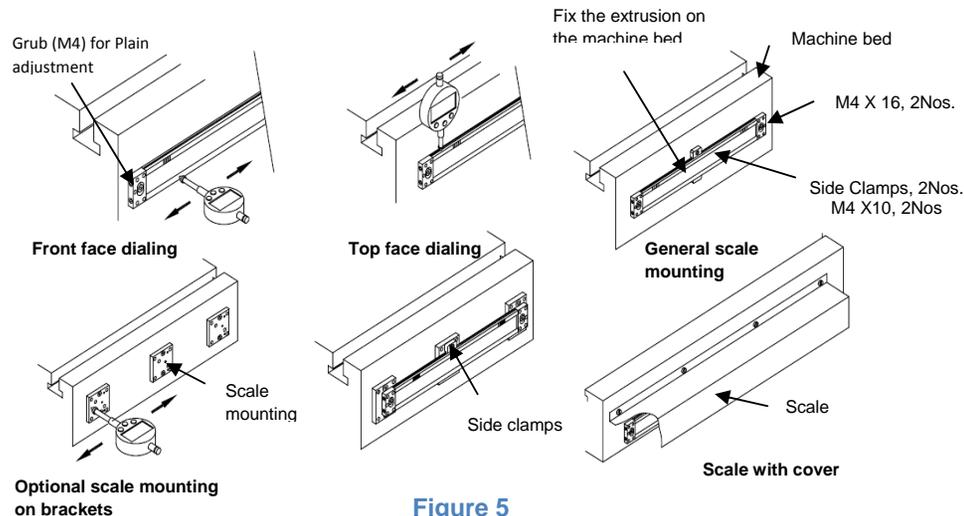

Figure 5
- ☞ If the mounting surface of the machine is even (within 0.1mm/m), then the scale can be directly mounted to the machine. Ensure the parallelism to full length of the scale as instructed in the mounting tolerances using a dial indicator. Adjustment is provided in the scale end brackets to help aligning the scale and maintaining the mounting tolerances. Refer Figure 5.
- ☞ Mounting brackets should be positioned at the two ends of the scale as shown in the Figure 5. The alignment of the blocks should be checked using dial indicator before mounting the scale. Use side clamps as indicated in Figure 5 at every 500mm.
- ☞ Ensure the supplied cover is properly mounted to protect the scale and reader head for the entire length to ensure the reliability and performance of the system. Refer Figure 5.